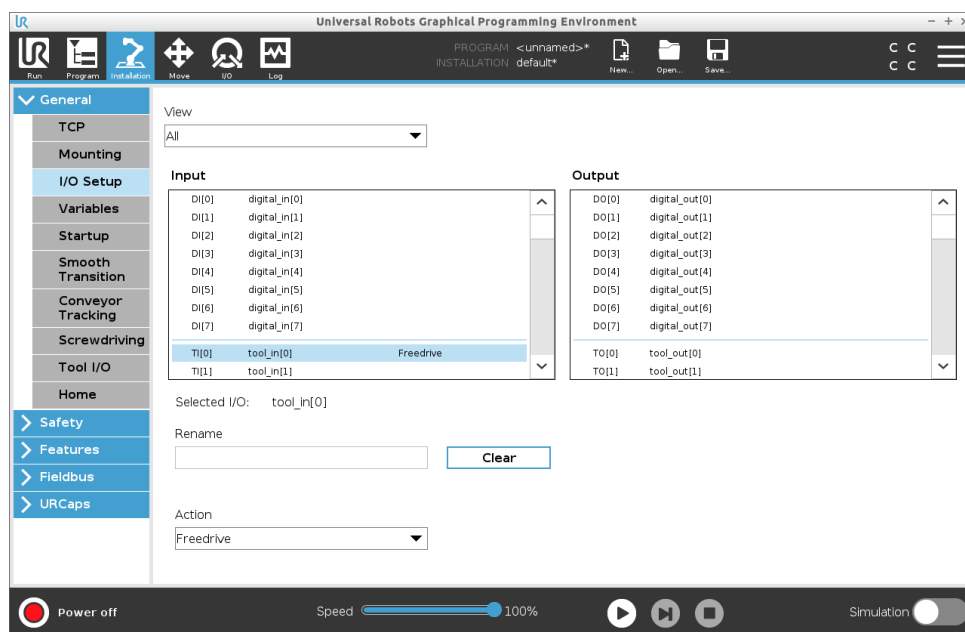

Figure 3.2: Mounting the programming flange.
1. Mount the flange by placing it at the end of the robot arm (see figure 3.2).